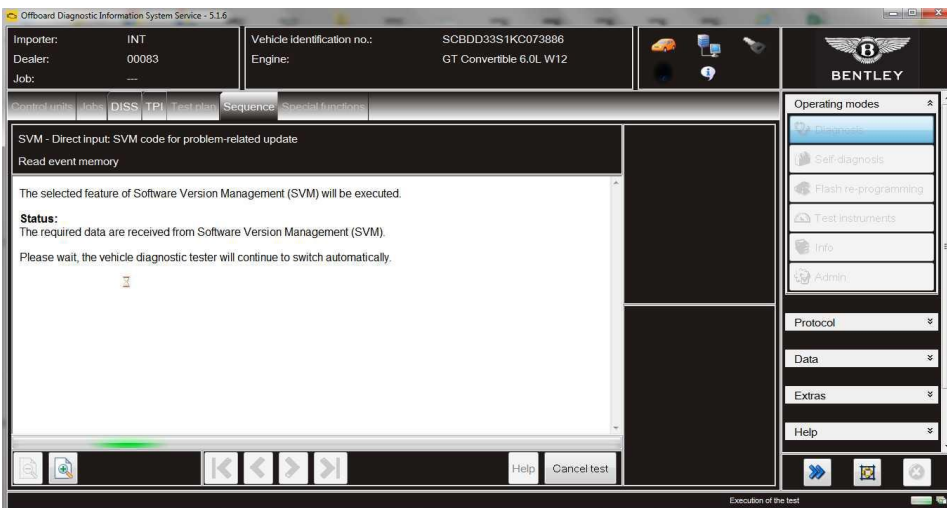

Figure 3
5. The SVM will now begin (Figure 3).